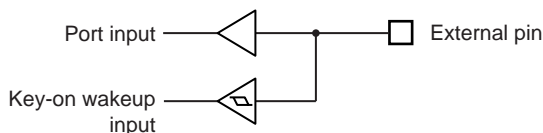

Figure 13-2 Key-on Wakeup Input and Port Input
- Note 3: The input circuit of Key-on Wakeup input and Port input is separated. Also each input voltage threshold value is different. Therefore, a value comes from port input before STOP mode starts may be different from a value which is detected by Key-on Wakeup input (Figure 13-2).